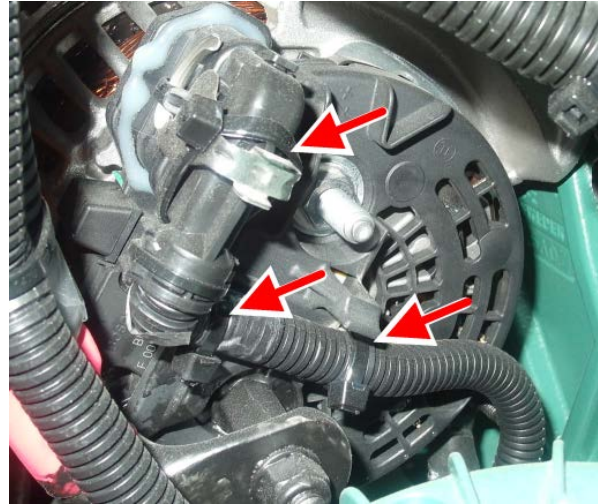

FIGURE 49
10. Secure the alternator harness using nylon cable ties P/N 504637 positioned as shown by red arrows on FIGURE 49.